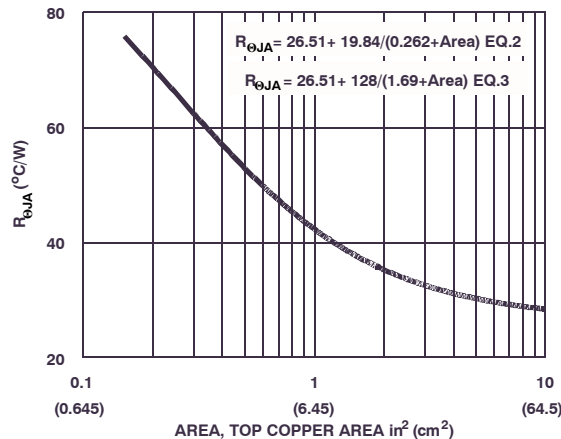

Figure 21. Thermal Resistance vs. Mounting Pad Area
**onsemi** provides thermal information to assist the designer's preliminary application evaluation. Figure 21 defines the  $R_{\theta JA}$  for the device as a function of the top copper (component side) area. This is for a horizontally positioned FR-4 board with 1 oz copper after 1000 seconds of steady state power with no air flow. This graph provides the necessary information for calculation of the steady state junction temperature or power dissipation. Pulse applications can be evaluated using the **onsemi** device Spice thermal model or manually utilizing the normalized maximum transient thermal impedance curve.
Thermal resistances corresponding to other copper areas can be obtained from Figure 21 or by calculation using Equation 2 or 3. Equation 2 is used for copper area defined in inches square and equation 3 is for area in centimeter square. The area, in square inches or square centimeters is the top copper area including the gate and source pads.